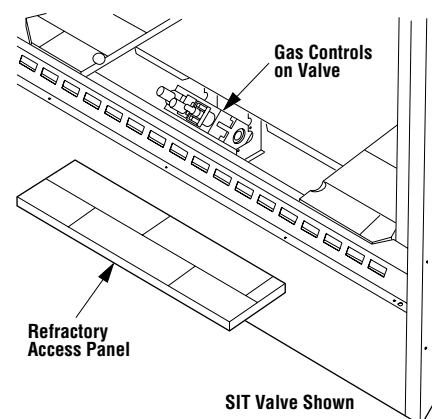
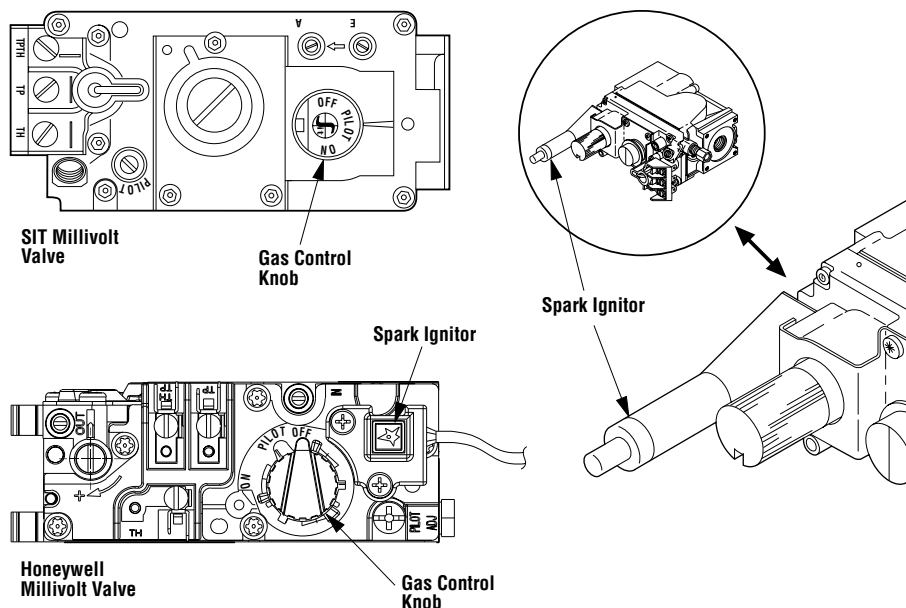
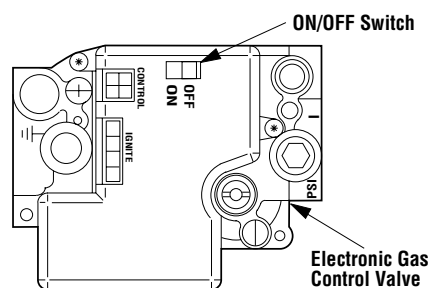

Figure 1
Figure 2
Figure 3
1. Appliance operation may be controlled through a remotely located optional wall switch. Separate switches may provide independent control for the remote controlled fireplace operation (optional equipment). In lieu of remote or remote wall switch operation, the appliance must be operated directly through the controls located on the front of the valve located within the control compartment under the removable refractory access panel, *Figure 1*.
Operation of millivolt and electronic gas control systems are different. Before lighting and operating your appliance determine if you have a millivolt or electronic appliance. Refer to *Figure 1* to access the gas control compartment below the lower refractory panel. Millivolt appliances will be fitted with one of the two gas control valves shown in *Figure 2*. Appliances with electronic systems will be fitted with the electronic valve shown in *Figure 3*. Familiarize yourself with the differing controls for the valve your appliance uses.
To light millivolt appliances refer to the detailed lighting instructions found in both English and French on pages 10 and 11 of these instructions respectively. **Millivolt and electronic appliance lighting instructions may also be found on the pull out labels attached to the gas control valve located within the gas control compartment.** Refer to *Figure 2* to locate the appropriate location for the spark ignitor used with your appliance.